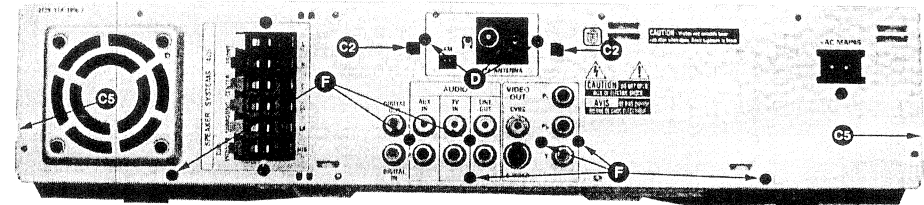

Figure 3
- 1) Loosen 3 screws D and 2 catches C2 on the Rear panel (pos 251) to remove the Tuner board assembly (pos 1101) as per figure 3.
- 4) Loosen 7 screws F (8 screws for Scart version) and 2 C5 to separate Rear Plate assembly (pos 251 + 227) from the Bottom plate as per figure 3.